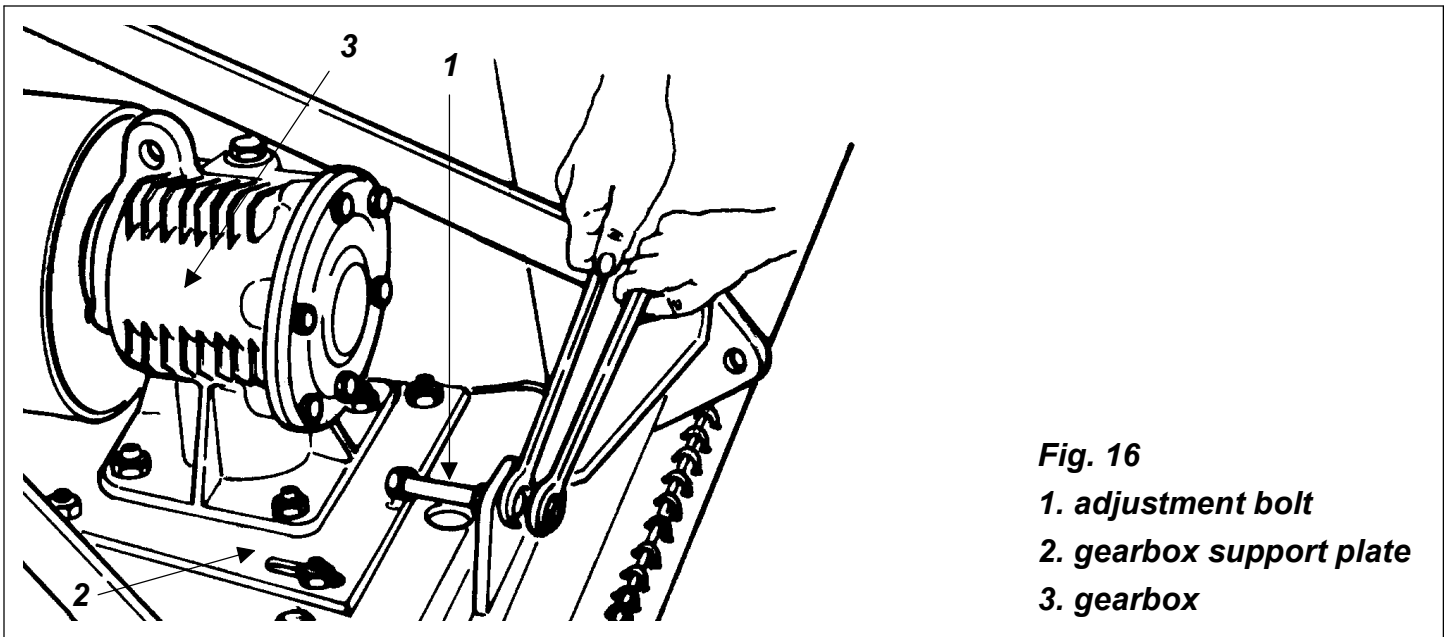

Fig. 16
To adjust the tension do the following (see fig. 16):
4. Turn the adjustment bolt counter clockwise, pushing the gearbox support plate forward until all tension is released (**see fig. 16**).
2. Loosen the nuts holding the gearbox support plate (**see fig. 16**).
3. Loosen the nut and turn the bolt in order to push the gearbox forward and release tension on the belts (**see fig. 16**).